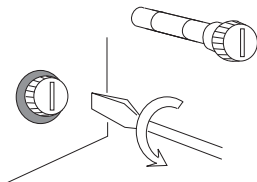

Fig. 5-1 Removing the fuse holder
3. Remove the fuse holder using a tool such as a flat-blade screwdriver as shown in Fig. 5-1.